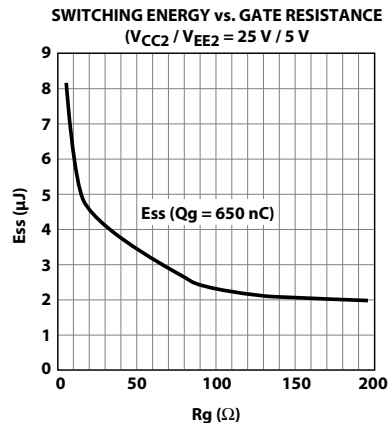

Figure 77. Switching energy plot for calculating average  $P_{switch}$  (for HCPL-316J output driving an IGBT rated at 600 V/100 A).
2. Calculate total power dissipation in the part referring to Figure 77. (Average switching energy supplied to HCPL-316J per cycle vs.  $R_G$  plot);
For  $R_G = 10.5$ , the value read from Figure 77 is  $E_{SWITCH} = 6.05 \mu J$ . Assume a worst-case average  $I_{CC1} = 16.5 mA$  (which is given by the average of  $I_{CC1H}$  and  $I_{CC1L}$ ). Similarly the average  $I_{CC2} = 5.5 mA$ .
$P_i = 90.8 \text{ mW}$ ,  $P_o = 217.3 \text{ mW}$ ,  $T_A = 100^\circ\text{C}$ , and assuming the thermal model shown in Figure 77 below.